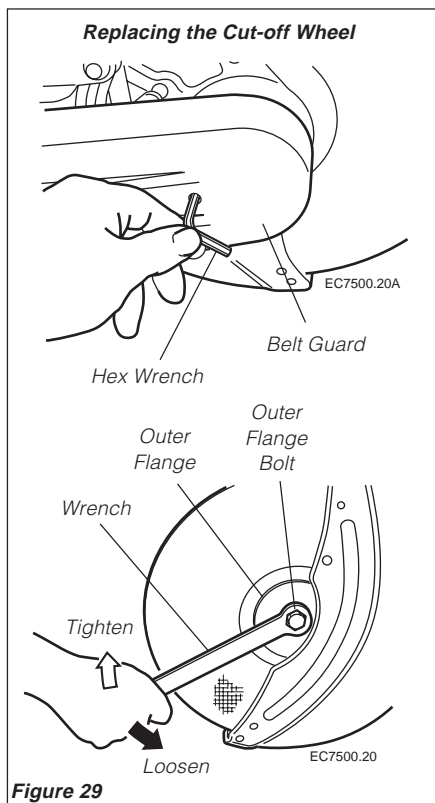

Figure 29
2. Insert a 6mm hex wrench into the hole in the belt guard to prevent the drive shaft from turning. See Figure 29.